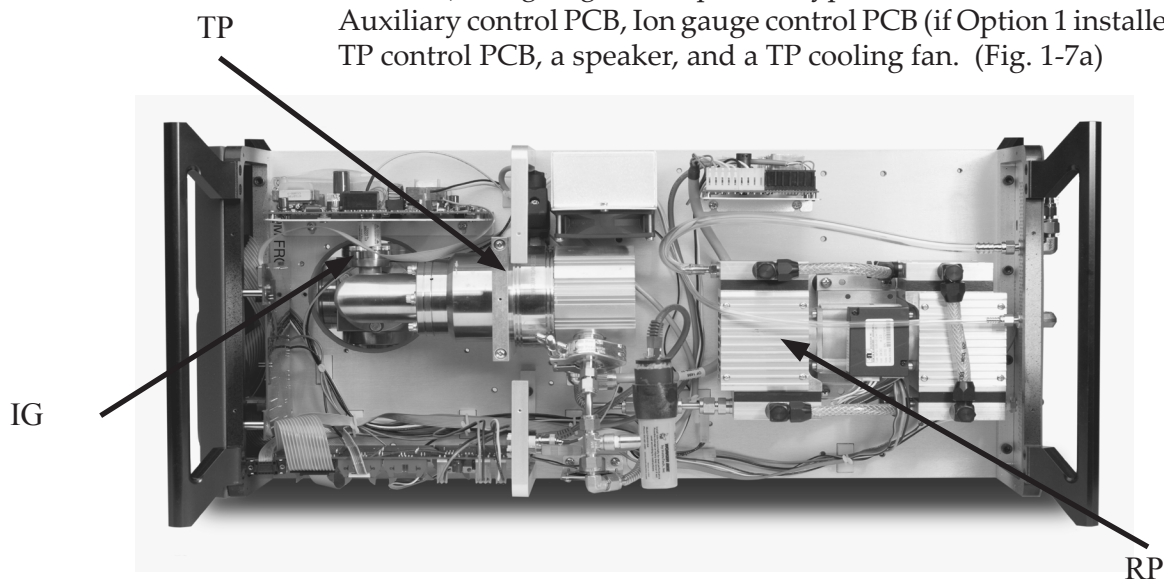

Figure 1-7a. Bottom view of UGALT - component configuration
This volume houses vacuum control and system control consisting of TP connection elbow, TP, Diaphragm pump for the bypass line & TP backing (RP), Pirani gauge (PG), Ion gauge (IG; if Option 1 installed), roughing line & part of bypass line, Main control PCB, Auxiliary control PCB, Ion gauge control PCB (if Option 1 installed), TP control PCB, a speaker, and a TP cooling fan. (Fig. 1-7a)
The ion gauge and its controller is installed inside the UGALT. All the related cords are also connected before the shipment. (See Fig. 1-7a)